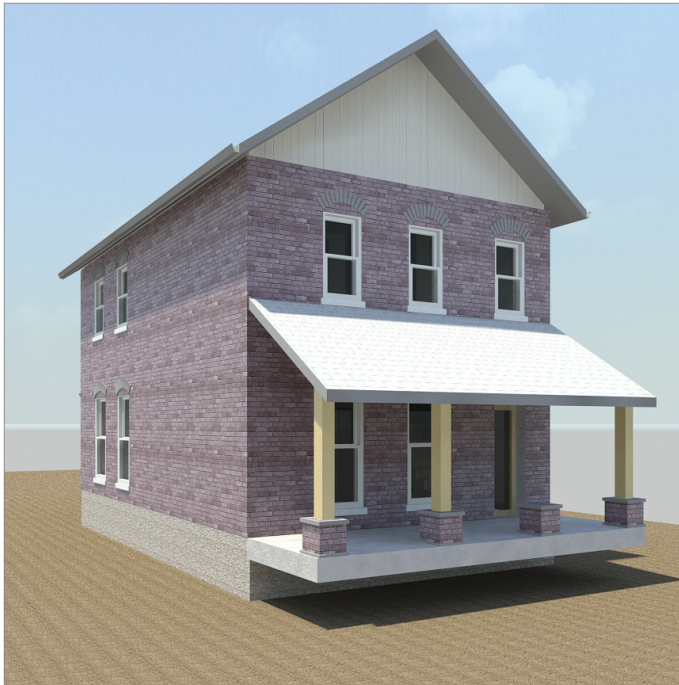

FIGURE 9.13 The finished rendering
7. Once this rendering finishes (Figure 9.13), click the Save To Project button. This will prompt you to name the image. The image will be saved in your Project Browser under the Renderings branch. You can also click the Export button, which will save your rendering to your computer's hard drive as a .bmp, .jpg, .png, or .tif file.